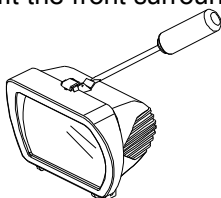

FIGURE 10
- 1) Use a flat blade screwdriver to open the front cover clip on the floodlight (FIGURE 10).